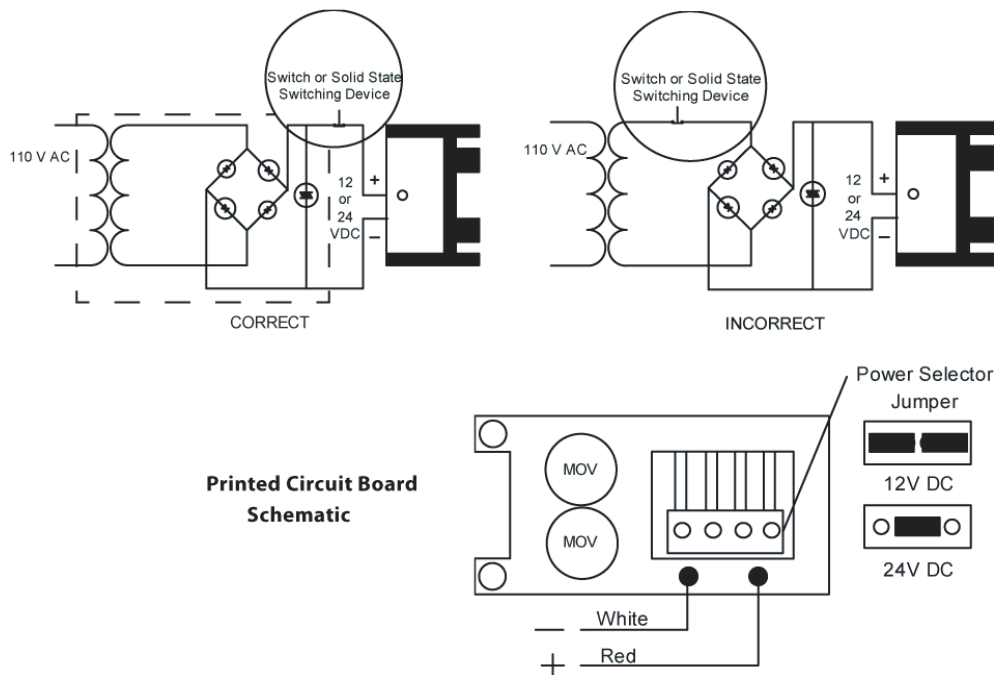

Figure 2.1 Dimensions
**Important:** Power Switch should always be wired as shown in Figure 2.1 to minimize the effect of residual magnetism. Contact Camden for other wiring considerations.
Set jumpers for 12V DC operation. (See Figure 2.1)